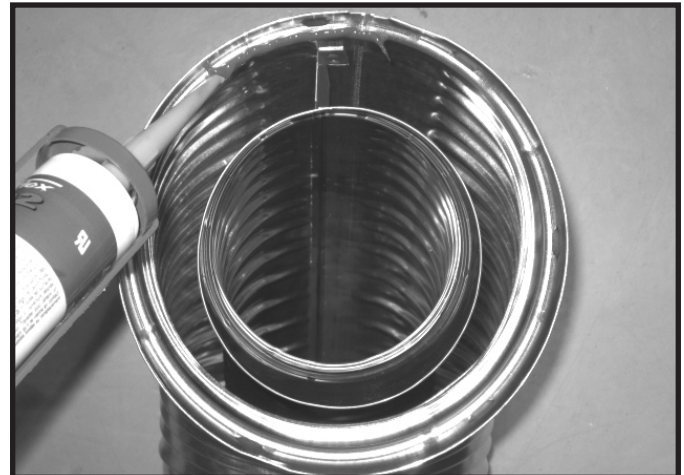

Figure 10.1 High Temperature Silicone Sealant
- Apply a bead of silicone sealant inside the female outer pipe joint prior to joining sections. See Figure 10.1.